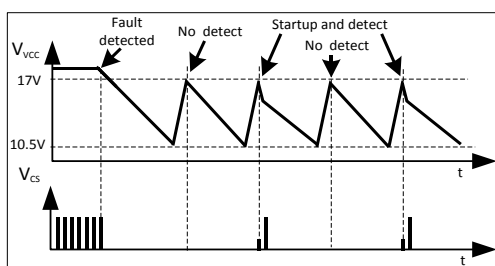

Figure 30 Odd skip auto restart waveform
Odd skip non switch auto restart mode is similar to odd skip auto restart mode except the start up switching pulses are also suppressed at the even number of the restart cycle. The detection of fault still remains at the even number of the restart cycle. When the fault is removed, the IC will resume to normal operation at the even number of the restart cycle (Figure 30).
VCC OVP (1) condition is when V_{VCC} voltage is $> 20.5 \text{ V}$, V_{FBB} voltage is $> 4.5 \text{ V}$ and during soft start period, the IC enters into odd skip Auto Restart Mode. This condition likely happens during start up at open loop fault (Figure 30).
Vcc OVP (2) condition is when V_{VCC} voltage is $> 25.5 \text{ V}$, the IC enters into odd skip Auto Restart Mode (Figure 30).
In case of Overload or Open Loop, the V_{FBB} voltage exceeds 4.5 V which will be observed by comparator C4. Then the built-in blanking time counter starts to count. When it reaches 20 ms, the extended blanking time counter CT1 is activated. The switch S2 is turned on and the voltage at the BBA pin will be discharged through 500 Ω resistor. When it drops to 0.9 V, the switch S2 is turned off and the Switch S1 is turned on. Then a constant current source I_{chg_EB} will start to charge up BBA pin. When the voltage hits 4.5 V which is monitored by comparator C11, the switch S1 is turned off and the count will increase by 1. Then the switch S2 will turn on again and the voltage will drop to 0.9 V and rise to 4.5 V again. The count will then increase by 1 again. When the total count reaches 256, the counter CT1 will stop and it will release a high output signal. When both the input signals at AND gate G5 is high, the odd skip Auto Restart Mode is activated after the 30 μs spike blanking time (Figure 30).